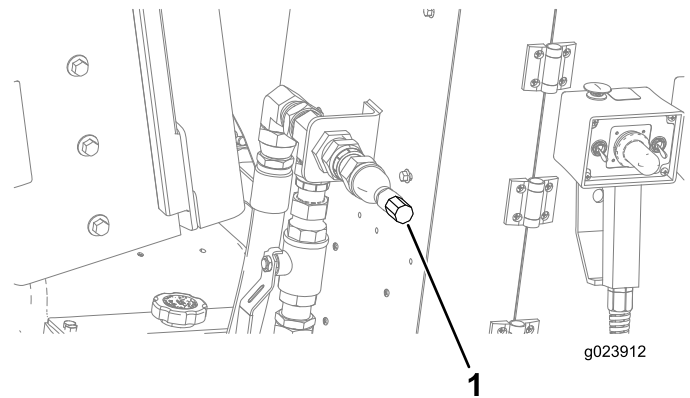

Figure 166
5. Connect the spray-hose attachment to the fitting (Figure 166).